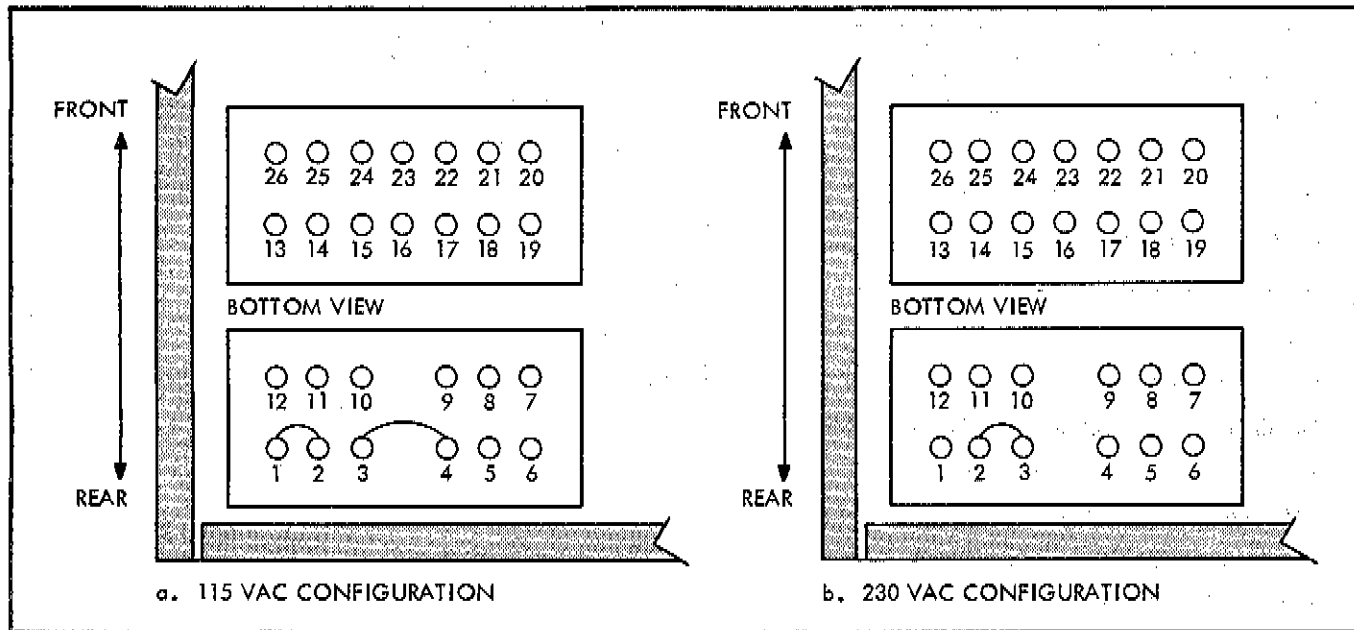

Figure 4-1. 115/230 VAC CONVERSION
- Orient the instrument and perform the appropriate electrical connections as illustrated in Figure 4-1.